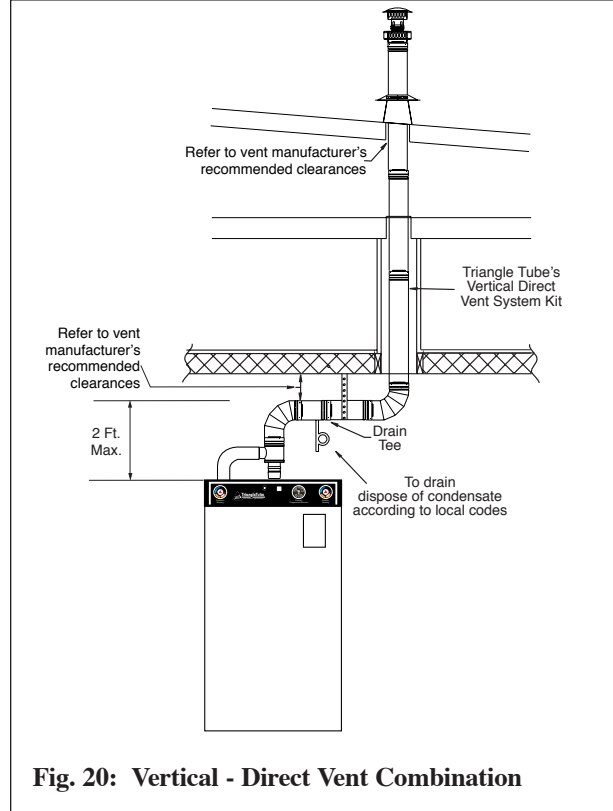

Fig. 20: Vertical - Direct Vent Combination
- a. The vent system should contain a condensate trap located no higher than 2 feet above the unit as shown in Fig. 20, page 34.